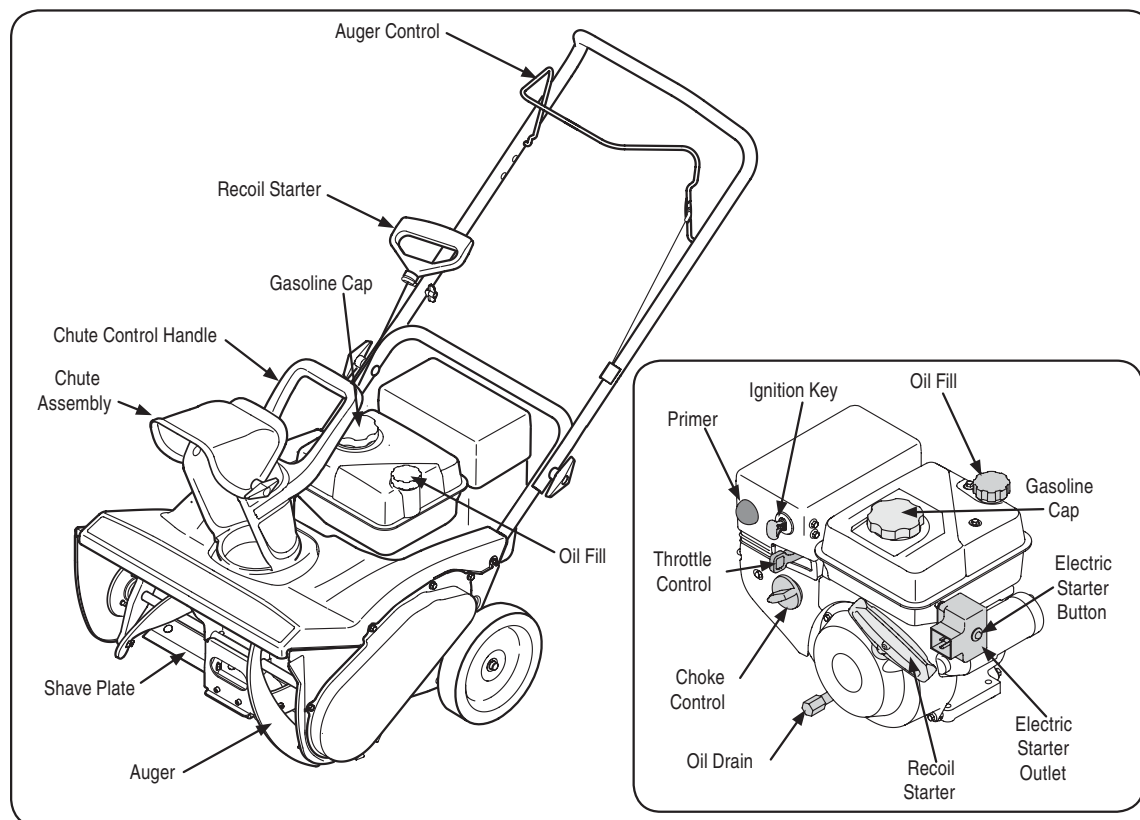

Figure 4-1
2. Now follow the instructions below as it pertains to your unit. See Figure 4-1 for location of controls.